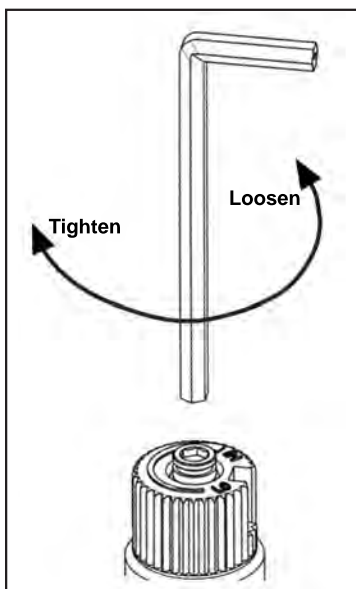

Figure 15: Removing valve screw.
- Insert a  $\frac{5}{32}$ " or 4 mm Allen wrench into the hexagonal key-way of the screw (see Figure 15), rotate it counter-clockwise until it is free and extract it.
- Using the Allen wrench as shown in Figure 15, rotate the screw clockwise until a torque of 9 inch lbs.